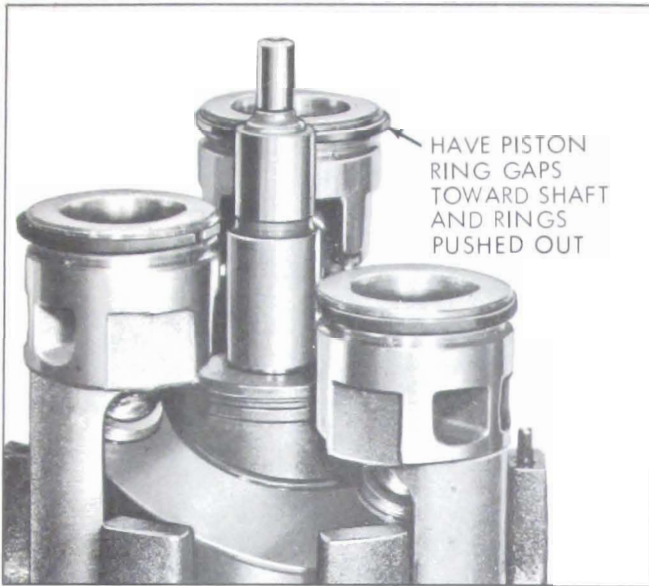

Figure 11-116—Front Cylinder Half Assembly
5. Rotate shaft to position pistons in a “stair step” arrangement. See Figure 11-116. Position piston ring gaps toward center of cylinder. Place rear half cylinder over shaft and start pistons into cylinder bores.